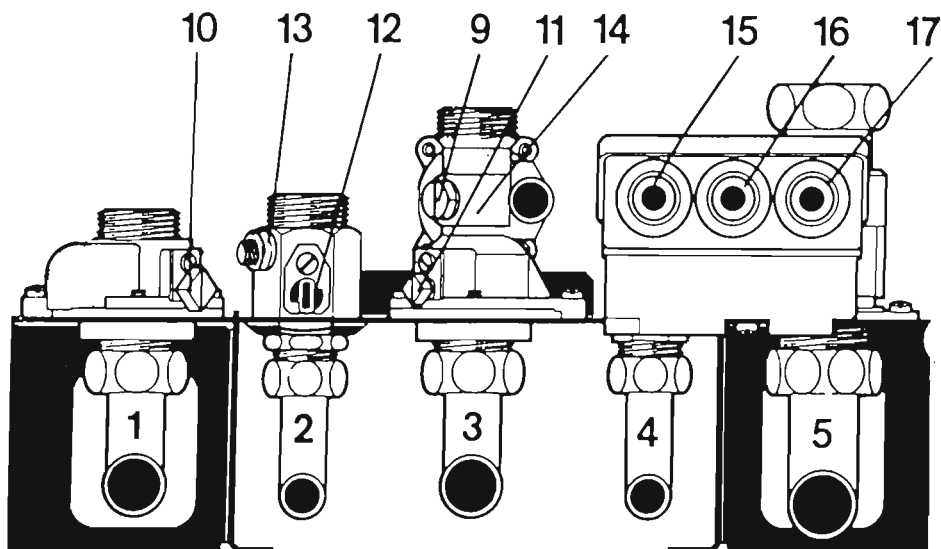

Fig. 8
6.6.2 The connecting plate incorporates the following for the installers/service engineer's convenience – refer to Fig. 8.